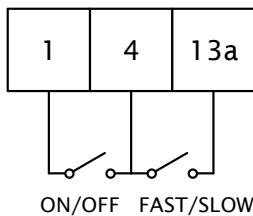

Figure 6.12: Two Speed Control
- 1. Wire two SPST switches as shown in Figure 6.12.